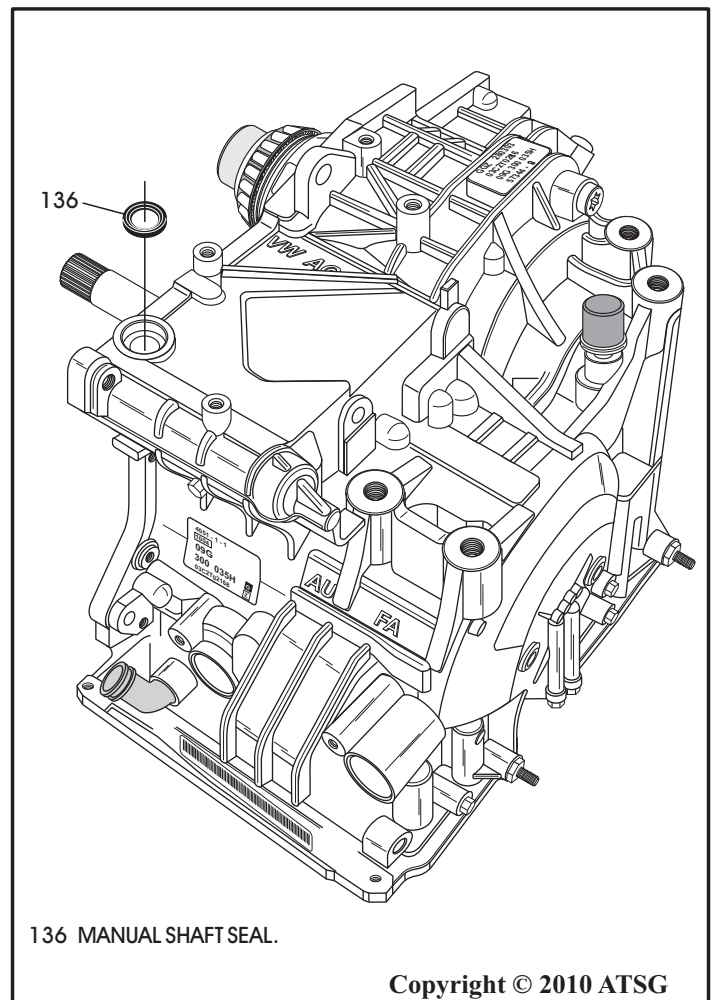

Figure 187
50. Install new manual shaft seal using the proper seal driver (See Figure 187).